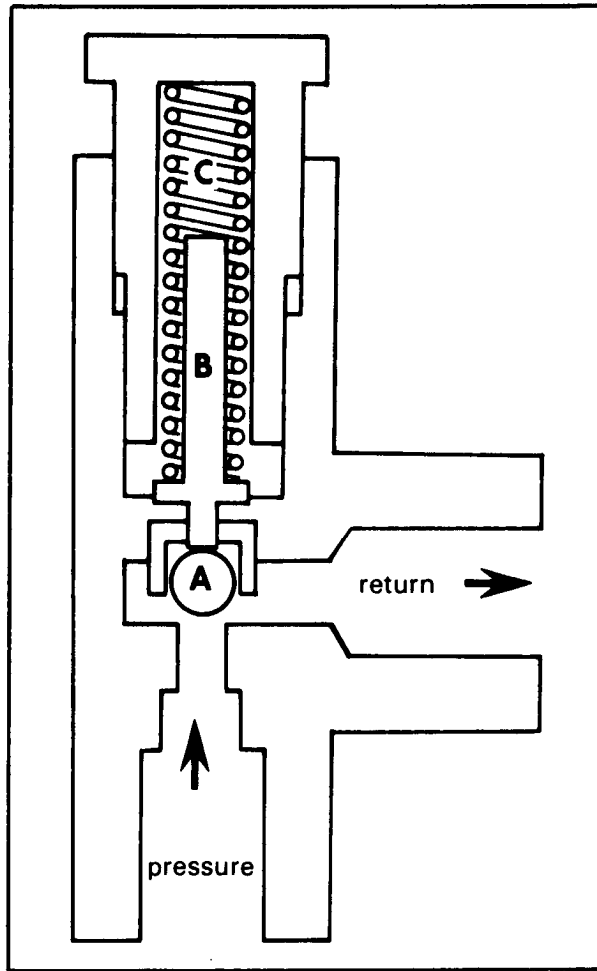

Figure 7-3. Main system relief valve with component parts.
Figure 7-3 shows a typical main system relief valve with a breakdown of its component parts. The relief valve consists of a cylindrical housing containing a poppet valve and a piston assembly. Each end of the housing is made to include a wrench-holding surface and a threaded port for installing a hydraulic fitting. The housing is stamped to identify the ports as PRESS (pressure) and RET (return). The poppet valve (A), which is located just inside the pressure port, is seated over a passage through the valve. When fluid pressure at the pressure port reaches 3,650 psi, the